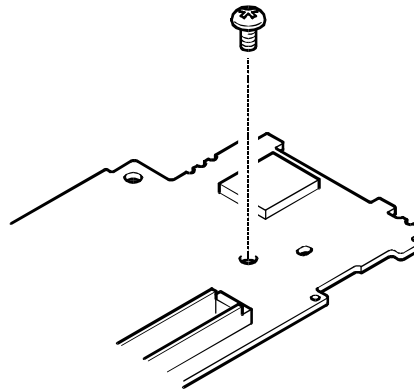

Figure 5: Releasing the Vibrator assembly
5. (Figure 5) Remove the screw attaching the Vibrator assembly to the Logic board (1 screw).